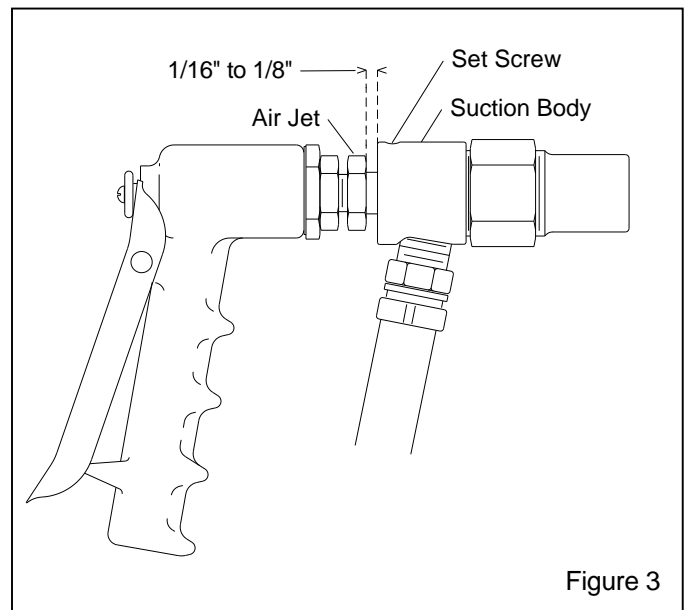

Figure 3
5.1 Air Jet, Figure 3
5.1.1 Adjust the air jet by loosening the set screw in the suction body and moving the jet in or out of the body. This adjustment controls suction in the material hose. Maximum suction is obtained when the jet is 1/16" to 1/8" from full forward, as shown in Figure 3.